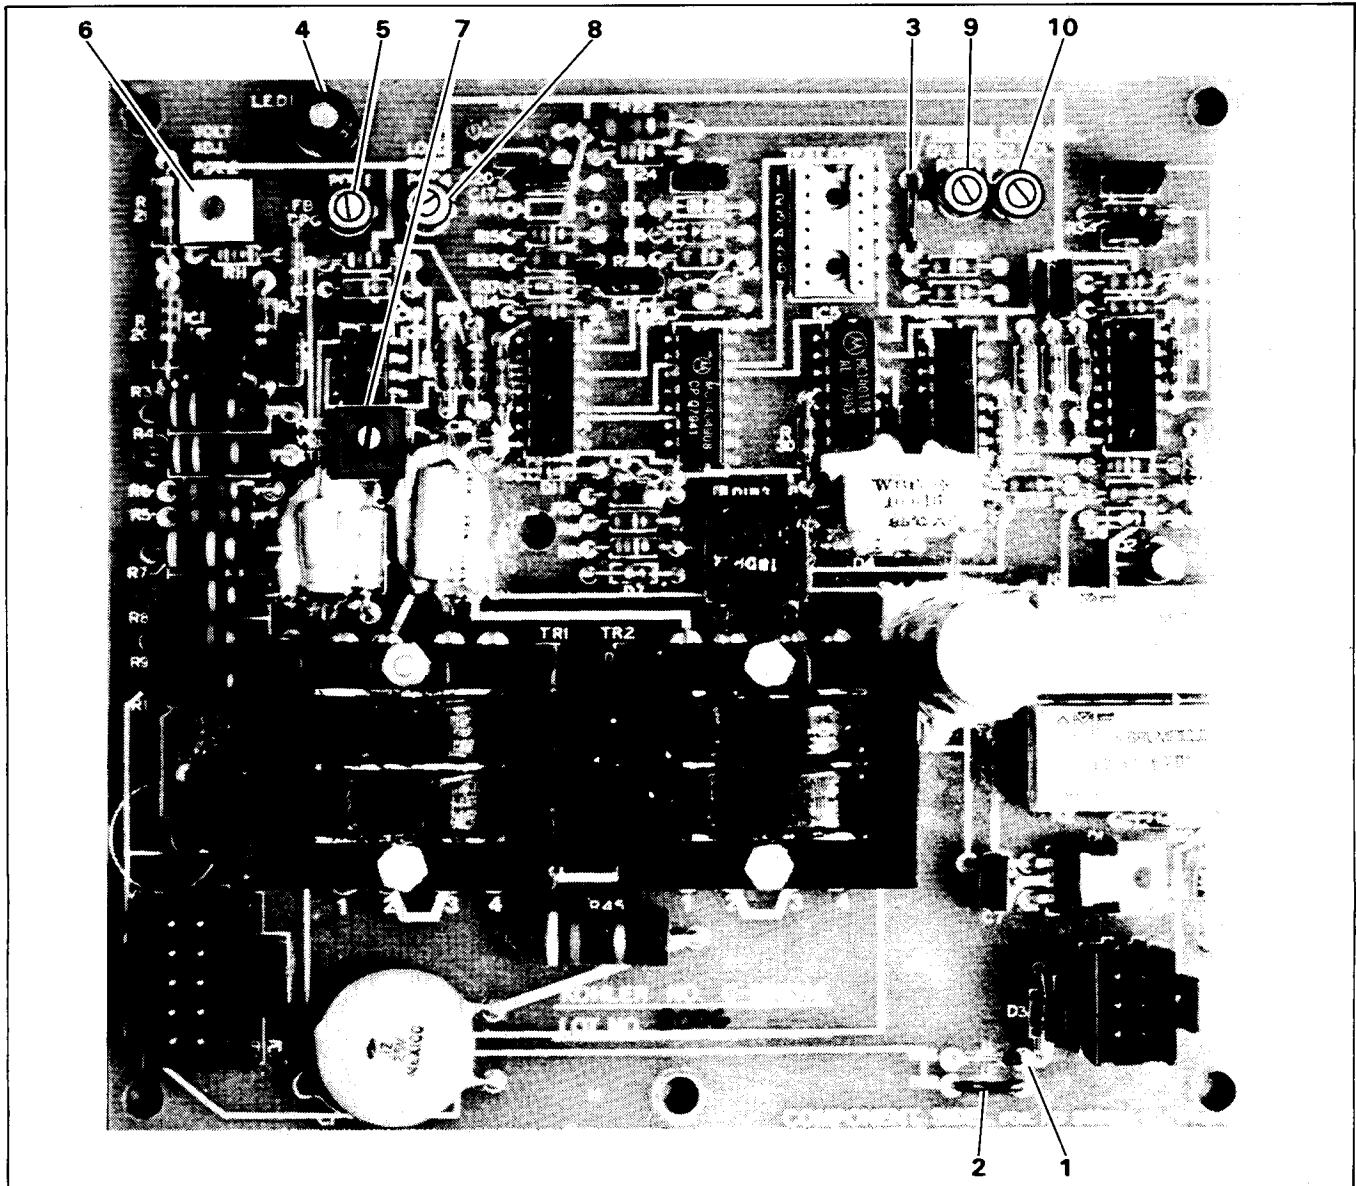

Figure 3-7. Regulator Board
6. See Figure 3-7 for types of voltage regulator boards, in order to determine which adjustment procedure must be used.